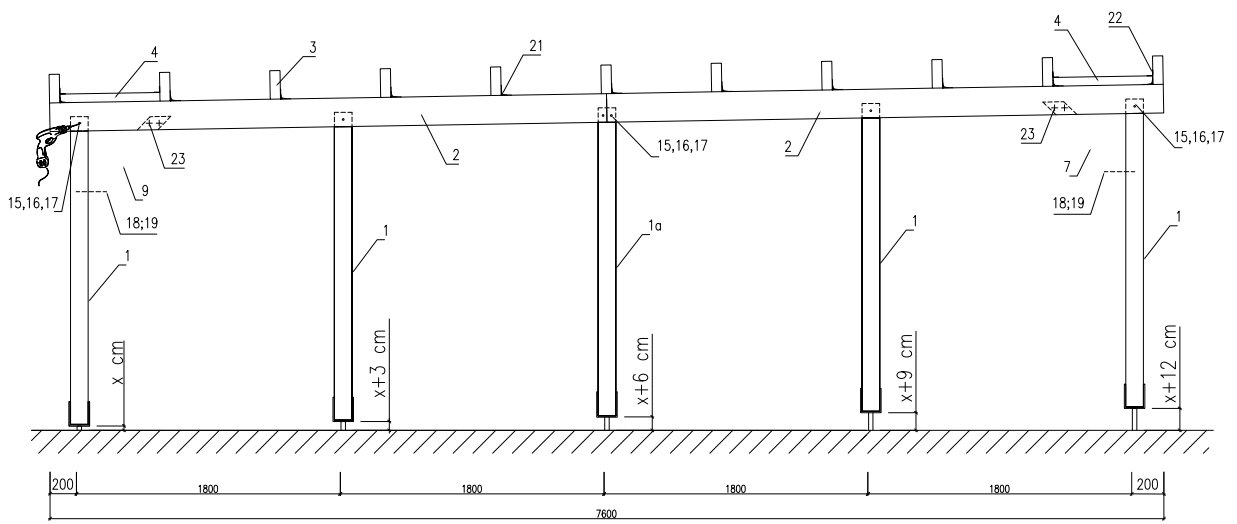
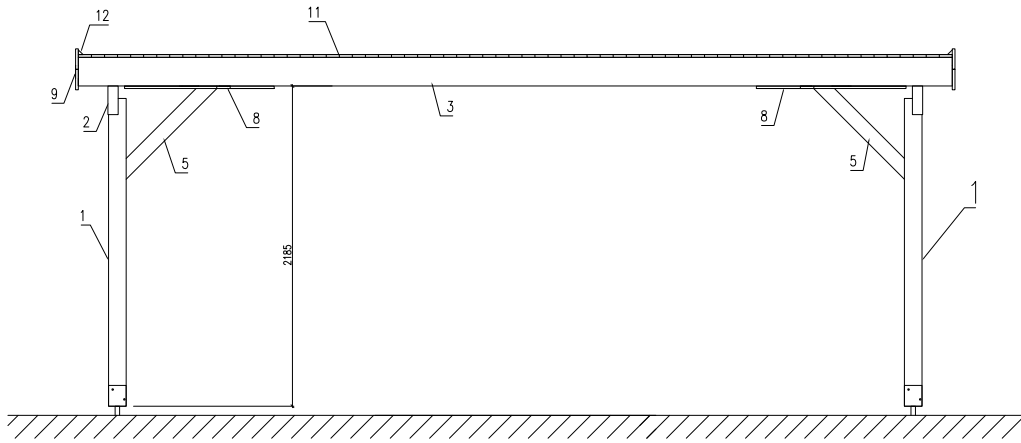

Fig. 2
Fig. 3
- a) by placing the beam support brackets at different heights (see Fig. 2)
Position the rafters (Pos. 3). See the distances from Fig. 3. Fix the rafters with squares (Pos. 21).
Then install the support components (Pos. 4). See the location of components from Fig. 2 and Fig. 3. Fix with squares (Pos. 22).
Next, fit the diagonals (Pos. 10) to make the carport even more stable. Diagonals should be fastened with screws (Pos. 24) to the underside of the rafters according to Fig. 3.